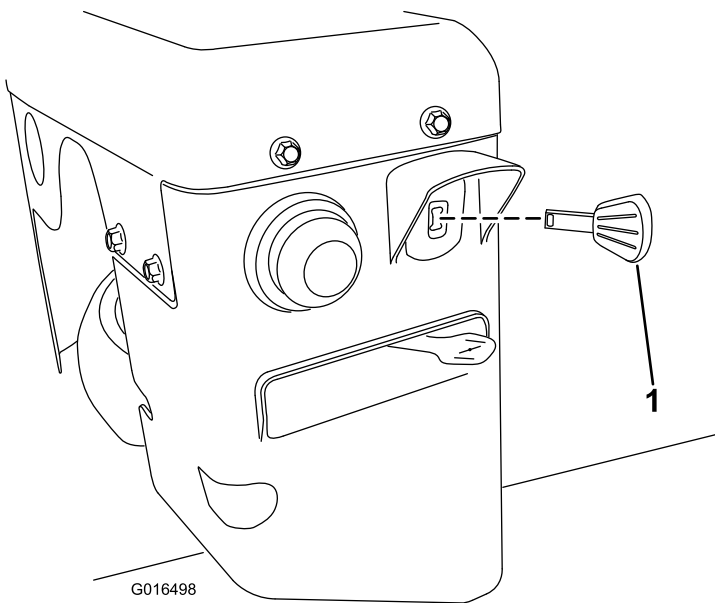

Figure 19
3. Insert the ignition key all the way in (Figure 19).